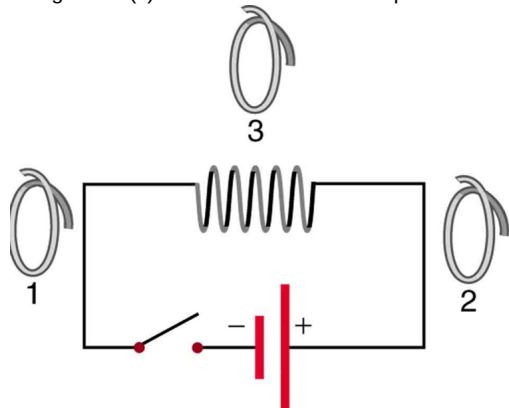

Figure 23.58
35. Referring to **Figure 23.58**, what are the directions of the currents in coils 1, 2, and 3 (assume that the coils are lying in the plane of the circuit): (a) When the switch is first closed? (b) When the switch has been closed for a long time? (c) Just after the switch is opened?